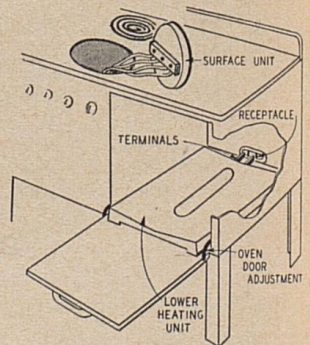

Fig. 51
Remedy: Same as for surface units. Push heating units firmly into receptacle. Fig. 51.
Remedy: Check fit with a piece of paper. The door should fit tightly at the top but have $\frac{1}{8}$ -inch space at the bottom edge. The adjustment, Fig. 51, may require a serviceman.
5. Keep the drip pans beneath the surface units clean to prevent burning of wires leading to surface units. In order to clean, it may be necessary to lift up the surface unit, Fig. 51.